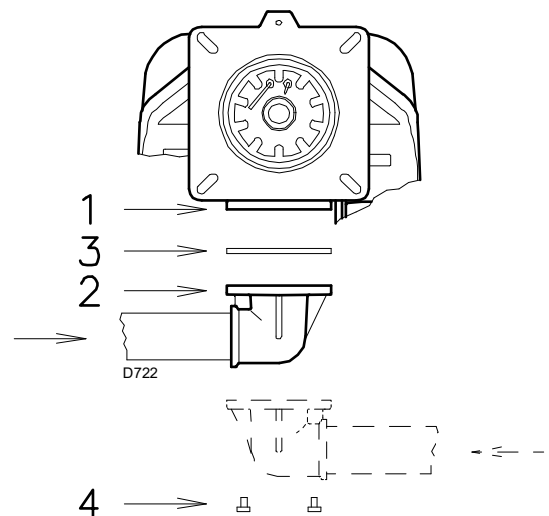

Fig. 18
- The gas train must be connected to the gas attachment 1)(Fig. 18) with the flange 2), the gasket 3) and the screws 4) supplied with the burner.